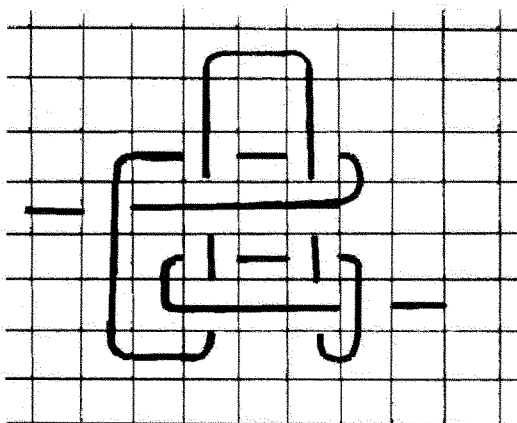

Fig 3
5. Draft this version on the graph paper (Fig.3)